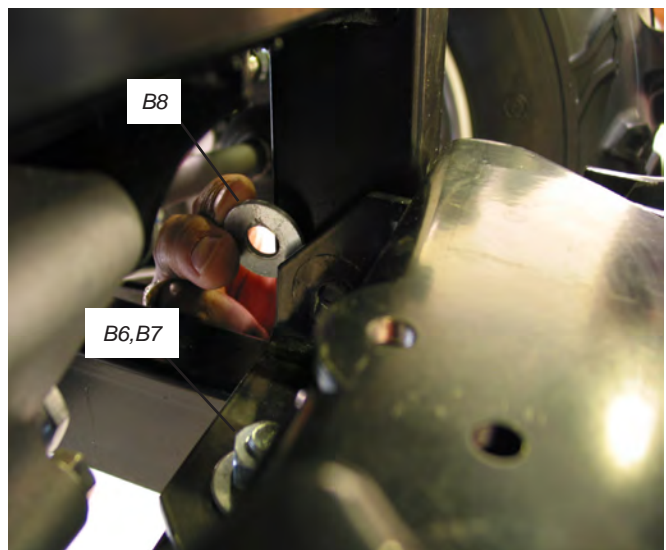

Figure 9 Install Shims
11. Install fasteners (B6, B7) in the rear location. See Figure 9.
12. It may be necessary to use shims between the vehicle frame member and the plow mount. If necessary, install shims (B8) along with fasteners (B2, B9, B10). Washer (B9) is to be installed on the outside of the vehicle frame opposite the plow mount. See Figures 9 and 10.